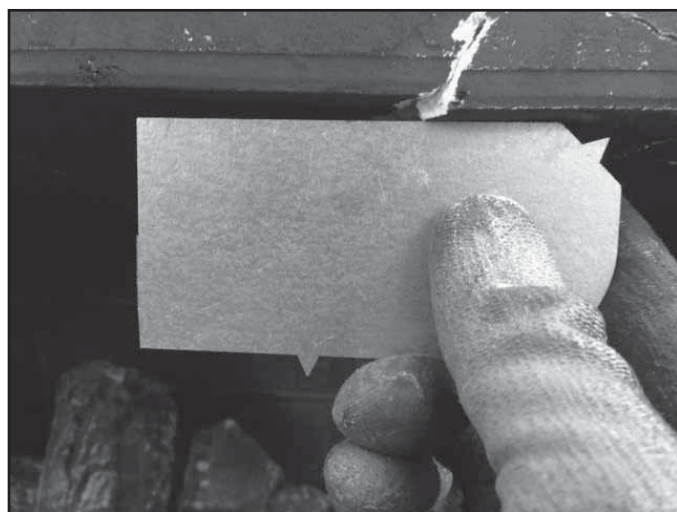

Figure 3.2. Surface plane of firebox is comprised and should be replaced.
- Cracks compromising the surface plane of the firebox. See Figure 3.2.